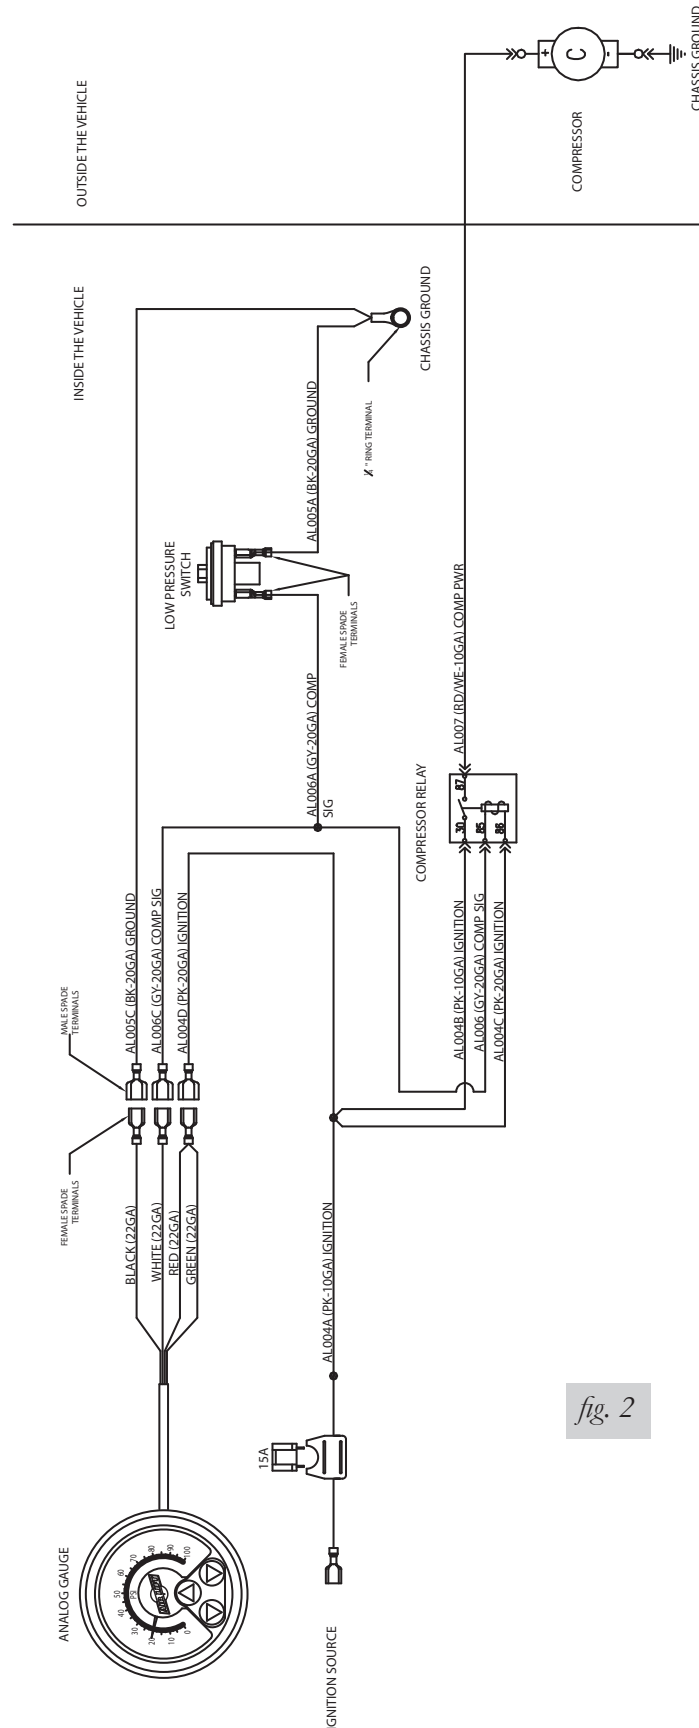

fig. 2
- b. Connect the low pressure switch assemblies as shown in figures 2 and 9.